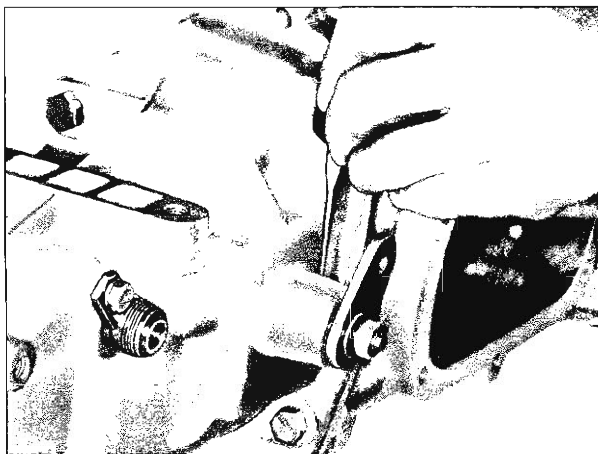

Fig. 7M—Removing Reverse Shifter Shaft Lock Pin
4. With transmission gears in neutral, drive lock pin from reverse shifter lever boss, as shown in Figure 7M, and pull shifter shaft out about $\frac{1}{8}$ ". This disengages the reverse shift fork from reverse gear.